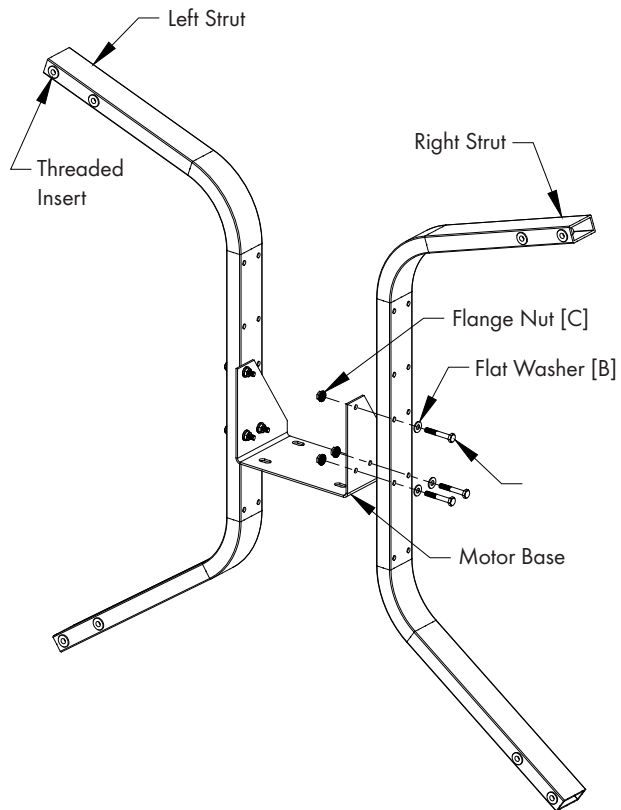

Figure 5A
With the Struts in front of you (same as Step 4B) fasten the Motor Base to Struts using (6) 1 3/4" Bolts [A], Flat Washer [B] and Flange Nut [C]. The flanges on the Motor Base point upward and the flat edges of the flanges will be on same side as the Threaded Inserts. See Figure 5A and 5B.